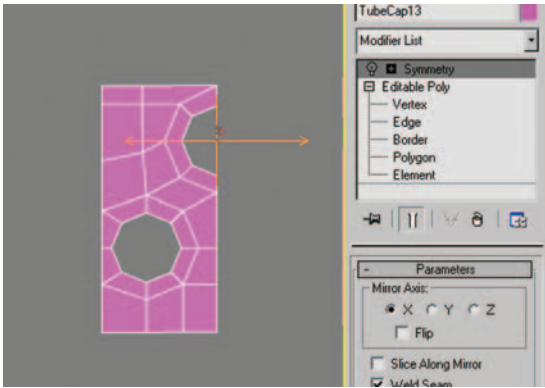
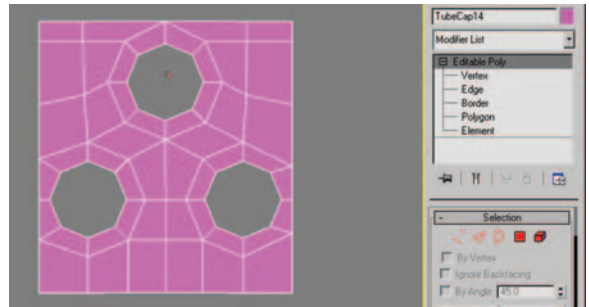

Figure 5.14 Symmetry turned off.
Figure 5.15 Symmetry collapsed to. You now have a single two-sided symmetric mesh to work with.
15. Now is a great opportunity to turn on and collapse our Symmetry modifier so we can begin working on the mesh in the collapsed state. In your modifier stack go to the word “Symmetry.” Make sure the modifier is toggled on and then right-click on it and select Collapse To. Figure 5.14 shows our mesh with Symmetry toggled off, Figure 5.15 shows it with Symmetry toggled on, and then collapsed to.